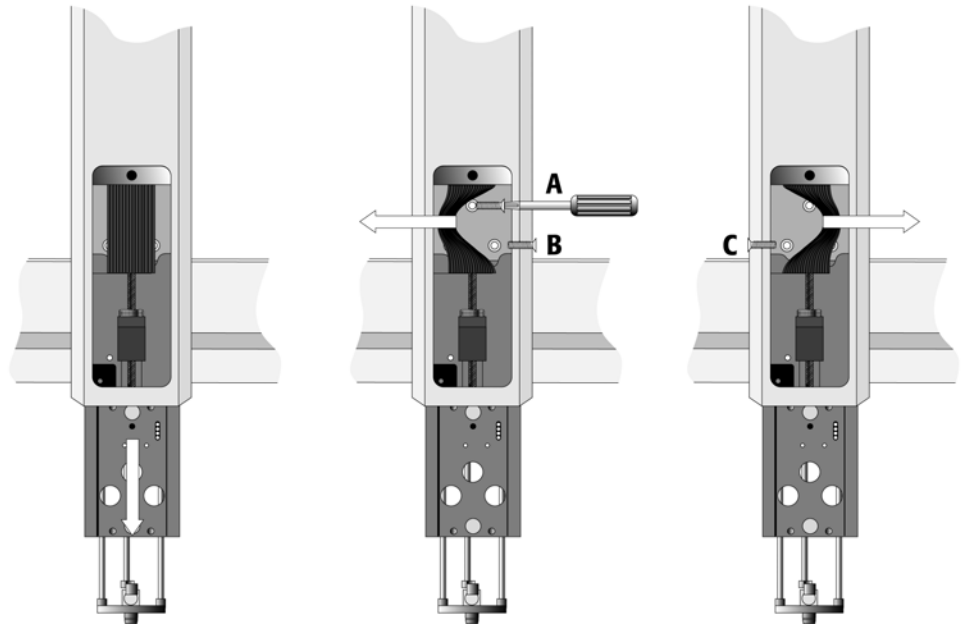

Figure 8. Inserting the Injection Unit Mounting Torx Screws
Installation of the Injection Unit should be done carefully. When installing it for the first time, have someone hold it in place while the mounting screws are inserted (see Figure 8).
- 4 Position the GC PAL Injection Unit to the left or right end of the X-Crossrail. The extended Injection Unit will be lower than the GC top cover. Extend the slider of the Z-Crossrail to the full stop. Locate the three large holes **behind** the flat ribbon cable, above the black anodized frame (slider) in the back-panel of the Z-Crossrail. Insert and securely tighten the Torx screw **A** (see Figure 8).